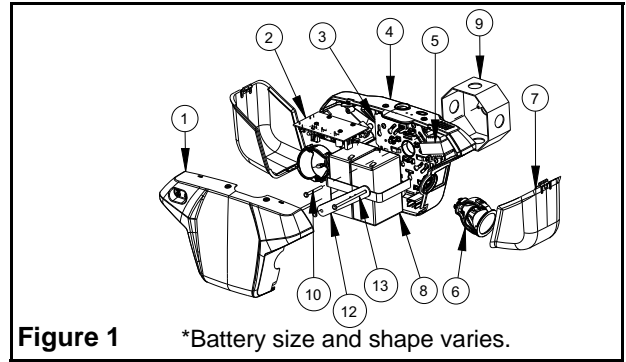
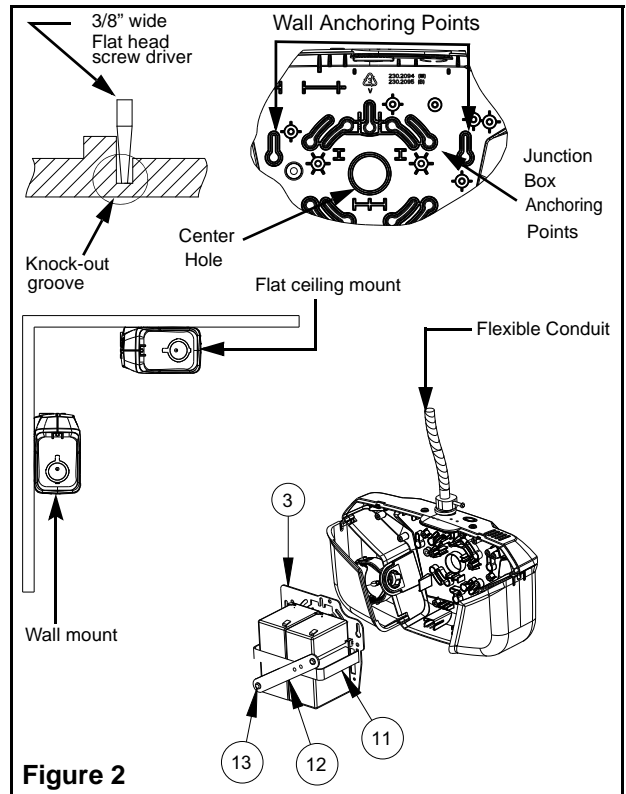

Figure 1 *Battery size and shape varies.
Figure 2
**CAUTION:** For models including battery support plate (3) it is critical to ensure that the battery bracket is properly screwed to the battery support plate (see Fig. 1). Failure to do so can cause serious injury.
**WARNING:** Velcro straps are a temporary means to support the batteries. You must always reinstall the battery retaining bracket(12) if supplied.
3. Lay unit on a flat surface face up. Remove lenses (7) (See Fig. 1) and leave lamps detached from the housing.
4. Remove the front cover (1).
5. Remove the battery retaining bracket (See Fig.2) and battery(ies) and note how they are connected to reproduce this upon re-assembly.
1. Knock-out the proper hole pattern in the housing (4) to mount to a standard junction box (9) (See Fig. 2) according to the required orientation. To do so, it is recommended to place the unit on a flat solid surface with the back of the housing facing the surface. Prop up the unit on a roll of tape or other solid means to facilitate the removal of the knock-outs. Place the tip of a flat head screwdriver in the groove and knock out each detail with the help of a hammer (See Fig. 2).
2. Remove bubble wrap and install lamp assembly (6) (See Fig. 1).
3. Install means to anchor unit in line with "Wall anchoring points" (see Fig. 2). This is recommended for a more secure installation.
Follow same steps as outlined for Wall Mounting. No canopy is required.(See Fig.2.)
Remove knock-out for the conduit entry located on the top of the housing (See Fig. 2). Secure unit to the wall following "Wall mounting" or "Ceiling mounting" instructions and make appropriate connections. Isolate wires from building to avoid contact with the transformer.